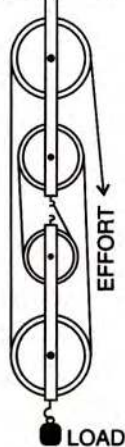

Fig. 3.34
8. Fig. 3.34 shows a block and tackle system of pulleys used to lift a load.